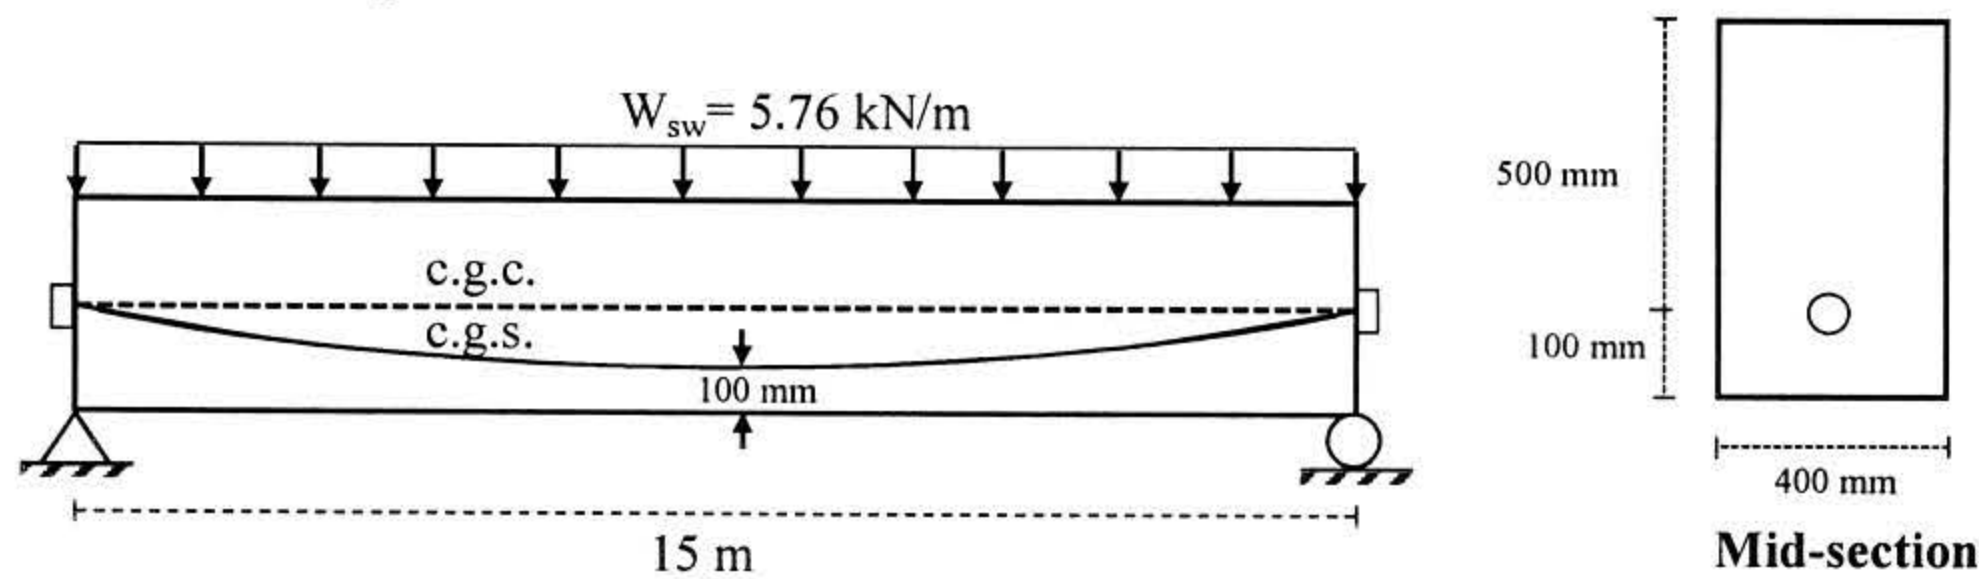

Figure 2
- 2.a) A concrete beam, shown in **Figure 2**, is post-tensioned with high strength steel. The cross section of steel tendon is 920 mm^2 and initial pre-stressing is 1100MPa. 18
- ii) Estimate the deflection of the beam shown in **Fig 2** after 1.5 months, assuming creep coefficient is 1.80 and effective prestress is 960 MPa at that time.